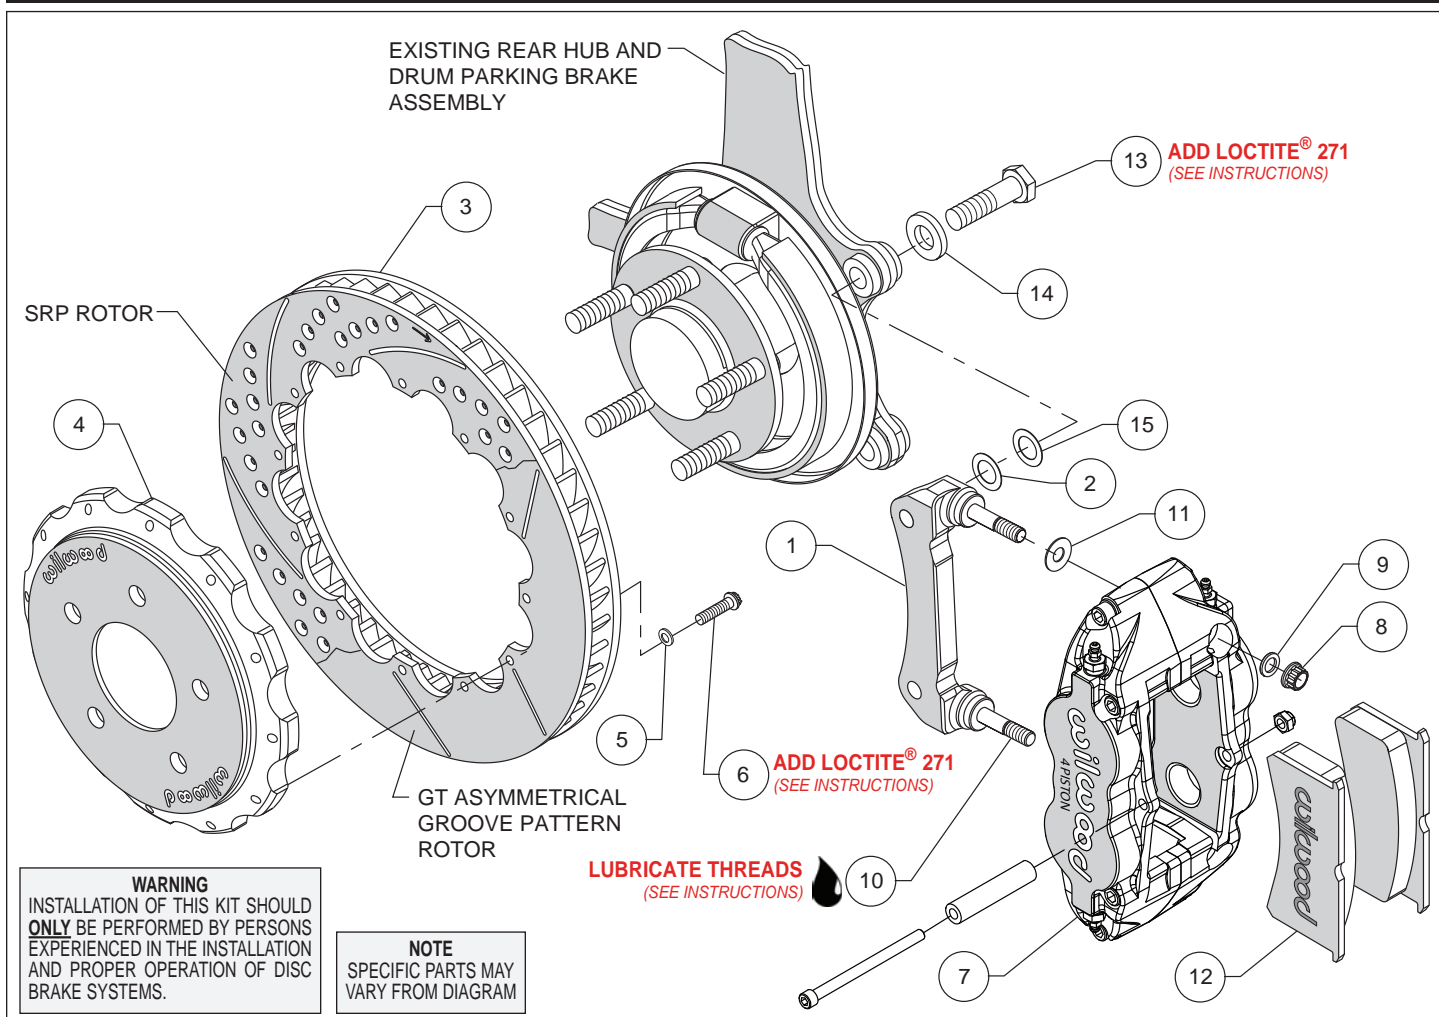
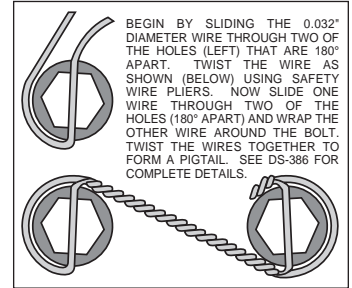

Figure 1. Typical Installation Configuration
Figure 3. Safety Wire Diagram
**Assembly Instructions** (numbers in parenthesis refer to the parts list and Figure 1 on the preceding pages):
- The caliper mount bracket (1) should initially be installed with clean, dry threads on the mounting bolts. Orient the bracket, as shown in Figure 1 and install using bolts (13) and washers (14). Initially place one .029" thick shim (15) on each bolt between the bracket and upright, Figure 1. Temporarily tighten the mounting bolts. **NOTE:** *The bracket must fit squarely against the mount bosses on the upright.* Inspect for interference from casting irregularities, machining ridges, burrs, etc. Later, after the caliper alignment has been checked, the mount bolts will be secured using red *Loctite*® 271.
- Orient the rotor (3) and the hat (4) as shown in Figure 1 and Photo 1. Attach rotor to hat using bolts (6) and washers (5). Using an alternating sequence, apply red *Loctite*® 271 to the threads, and torque to 155 **in-lbs**. For an added measure of security, the bolts may be safety wired using standard 0.032 inch diameter stainless steel safety wire as shown in Figure 3. Refer to Wilwood's data sheet DS-386 (available at [www.wilwood.com/Pdf/DataSheets/ds386.pdf](http://www.wilwood.com/Pdf/DataSheets/ds386.pdf)) for complete safety wire installation instructions.
- Lubricate the caliper mounting studs (10) with lightweight oil. Initially place one .035" thick shim (11), on each stud as shown in Figure 1 and Photo 2. Mount the caliper (7) onto the bracket (1) using lock nuts (8) and washers (9), Figure 1. Temporarily tighten the lock nuts and view the rotor through the top opening of the caliper. The rotor should be centered in the caliper, Photo 3. If not, adjust by adding or subtracting shims (2 and/or 15) between the bracket and the upright. Always use the same amount of shims on each of the two mounting bolts. Once the caliper alignment is correct, remove the bracket mounting bolts (13) one at a time, apply red *Loctite*® 271 to the threads, and torque to 77 ft-lb.